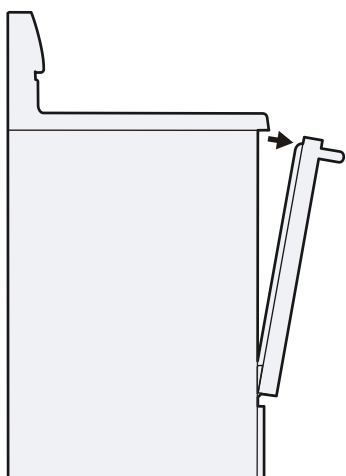

Fig. 1 - broil position
2. Arrange the interior oven rack to rack position recommendations -p. 25 Figs. 2 & 4-. Be sure to place the prepared food and pan directly under broil element. Leave the oven door open slightly (about 4 inches ) in the broil position. -p. 25 Fig. 1-.